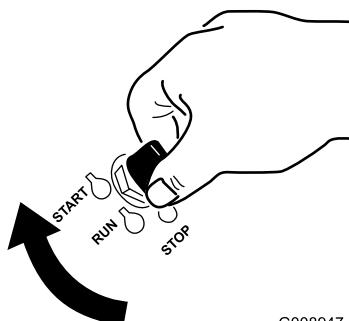

Figure 17
1. Turn the ignition key to the Start position (Figure 17). When the engines starts, release the key.
7. Turn the ignition key to the Start position (Figure 17). When the engines starts, release the key.